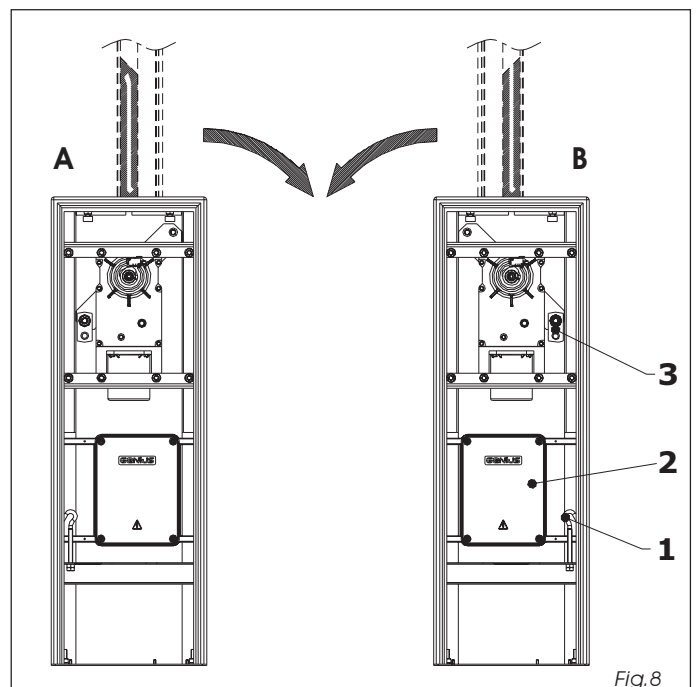

Fig.8
Attention: The automated system is supplied ready for left-hand installation (fig.8 ref. A).
Procedure for modifying the automated system from left- to right-hand (fig.8 ref.B).
- remove the tie-rod ref.1 fig.8.
- move the control unit from right to left ref.2 fig.8.
- position the tie-rod ref.1 fig.8 on the hole to the right of the control unit.
- move the spring securing plate ref.3 fig.8 from the left pin to the right pin.